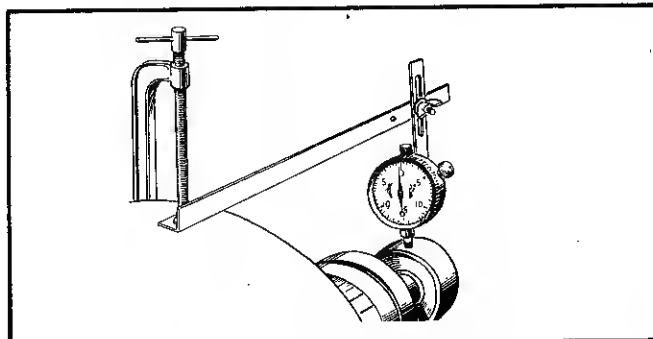

FIGURE 91. ARMATURE RUNOUT
3. Check for armature runout (Fig. 91). Runout should be less than .002".